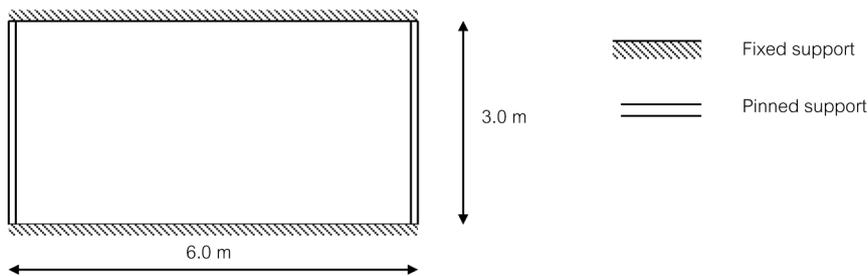

Figure Q.2
- 2 A horizontal reinforced concrete slab of 6 m x 3 m has fixed support along the long edges and pinned support along the short edges as shown in Figure Q.2. The slab is subjected to a uniformly distributed load q kN/m². Plastic moment capacity in x and y directions is 5 kNm (i.e. $M_x^+ = M_y^+ = M_x^- = M_y^- = 5$ kNm).